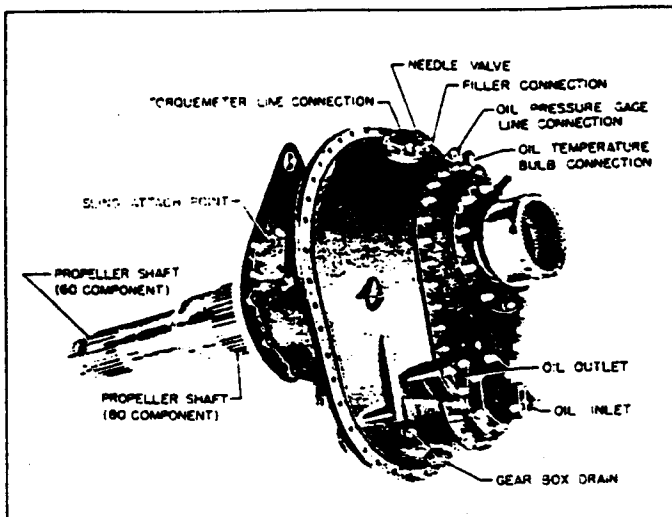

Figure 8. Gear Box - Front
e. GEAR BOX. (See figures 8, 9, and 10.)